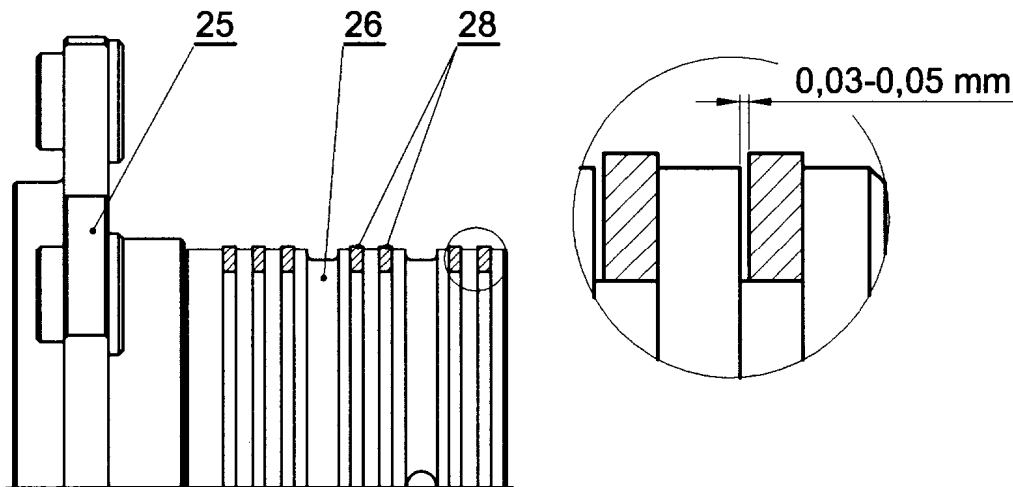
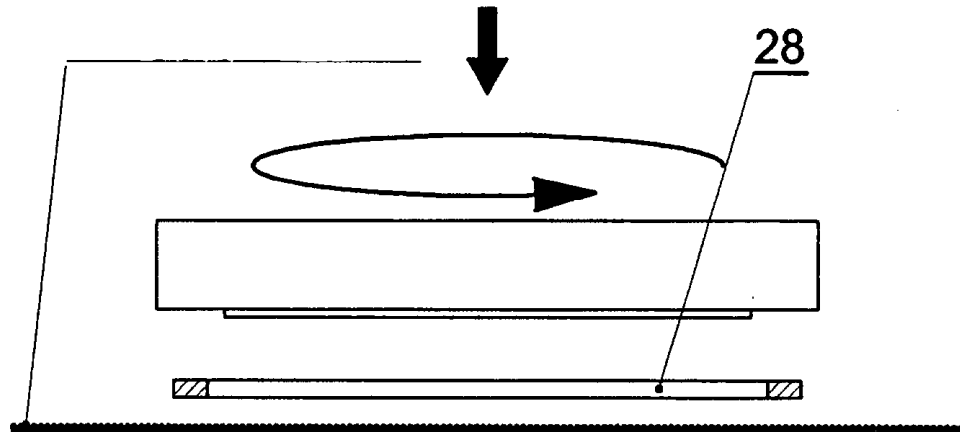

Fig.506 Sealing ring lateral clearance in the slot
Fig.507 Grinding of the sealing ring
- (1) In the case pressure oil distributor unsealing determination (P 7900.01) and it is caused by damage of oilsealing rings, exchange them.
- (2) Check side clearance of each new ring in proper slot of the rings carrier (26). Required clearance 0,03 – 0,05 mm (see Fig.506) Grind the ring on required clearance by using of the element (see Fig.507) on sand paper 800 – 1000 grind on the plane surface support.